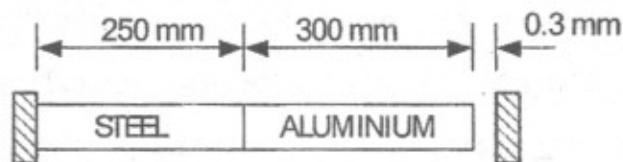

Fig. 2
- (b) Determine the temperature change that will cause a compressive stress of 36 MPa in the composite bar shown in the Fig. 2, if $E_s = 210$ GPa, $E_A = 70$ GPa and $a_s = 12 \times 10^{-6}/^{\circ}\text{C}$, $a_A = 23 \times 10^{-6}/^{\circ}\text{C}$. [10]